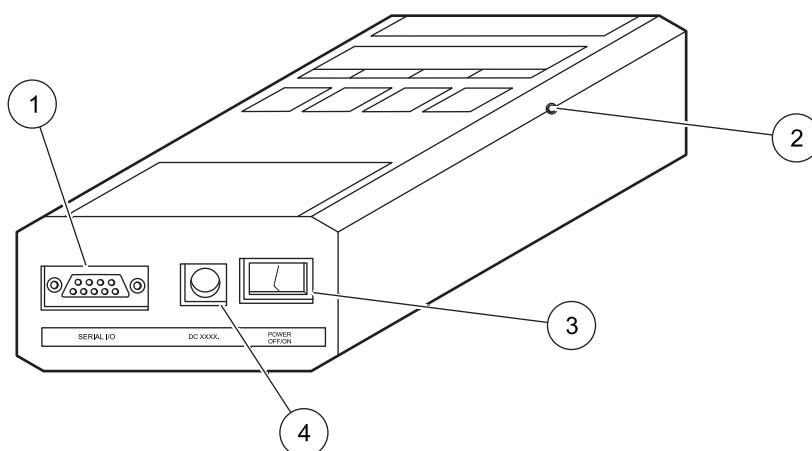
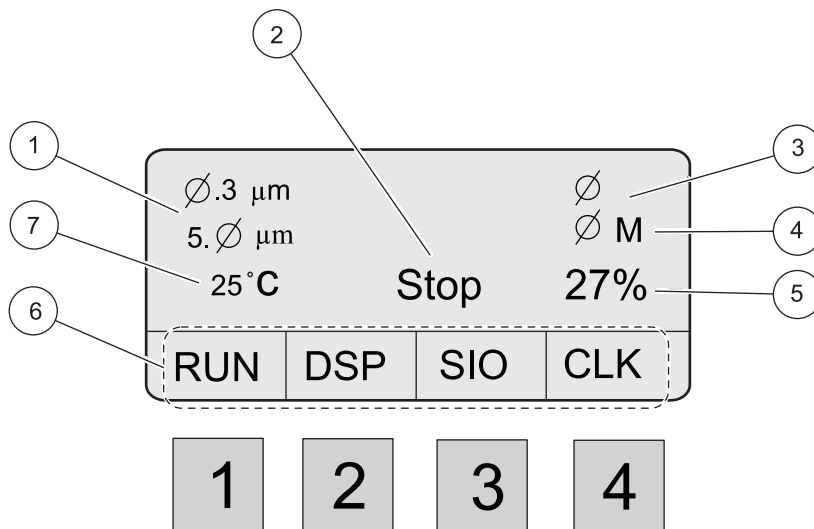

Figure 5 Connections and adjustments
Figure 6 LCD display
2. Attach the AC adapter to the power input jack (refer to Figure 5 on page 13) on the bottom of the MET ONE 227 particle counter.
The power and serial I/O connectors and the power switch are at the bottom of the counter. The brightness of the display may be adjusted for optimum performance in various ambient light conditions as shown in Figure 5.
Use the power switch at the bottom of the counter to turn on the MET ONE 227 particle counter (refer to Figure 5 on page 13, item 3). When first turned on, the counter will display the main screen (Figure 6 on page 16). The MET ONE 227 particle counter exhibits various counting modes. The factory default setting for the counting mode will be the Manual mode.
1. Press 1 on the front panel (refer to Figure 6). The pump will begin to operate. The count cycle status will change from “Stop” to “Wait” for two seconds while the pump reaches maximum speed.
The count cycle status (refer to Figure 6, item 2) will change to “Run” during the 1-minute sample and return to “Stop” at the end of the count cycle. The MET ONE 227 particle counter draws 0.1 cubic foot of air through the instrument. Multiply the results by ten to calculate the particle counts per cubic foot.